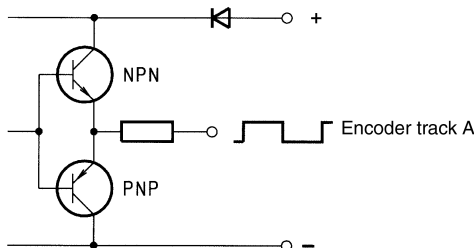

Figure 4.12 Block diagram, HTL output circuit
For notes on the encoder, see Figure 4.12 or section 6.3.1 "_79EN-Encoder evaluation"
A HTL encoder (see Figure 4.12) can be connected to terminals X2:11 and X2:12.
(1) The encoder is evaluated only in control mode FOR. For notes on the encoder, see Figure 4.12 in section 4.5.4 "DRV_4" or section 6.3.1 "_79EN-Encoder evaluation"